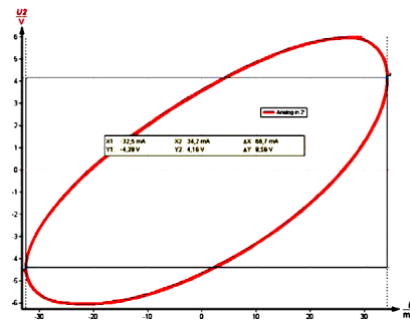
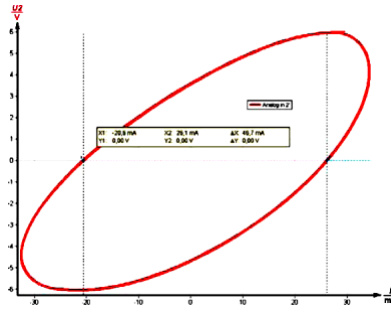

Figure 2.42:
Figure 2.43:
- 11) Use the “Survey” tool to determine the maximal extension of the Lissajous-figure in x-direction  $\Delta I_{max}$  (Figure 2.42) and the extension of the figure on the  $y = 0$  line ( $\Delta I_0$ ) (Figure 2.43).